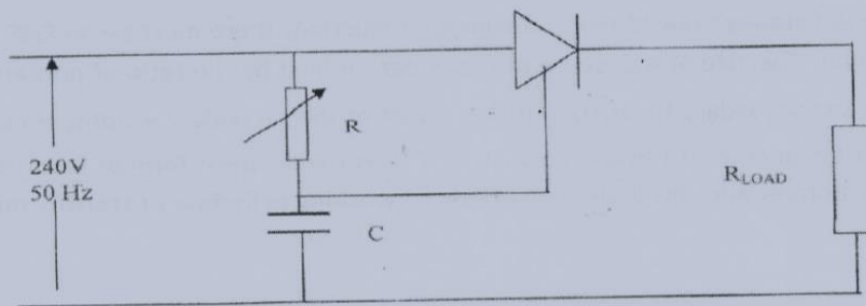

Fig Q8
- (a) State the conditions necessary to *turn on* and *turn off* a thyristor ('SCR'). (4)
- (b) Describe the operation of the circuit shown in Fig Q8. (8)
- (c) Sketch the voltage waveform across the load for EACH of the following trigger delay angles: (2)
- (i) 60° ; (2)
- (ii) 120° . (2)